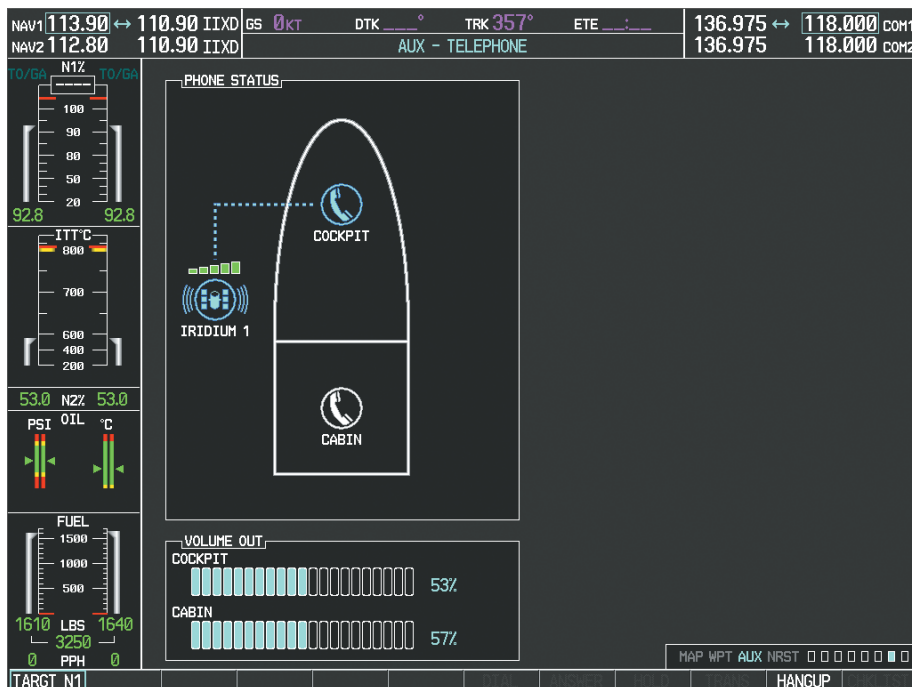

Figure 8-85 System is Making the Connection
- 7) Press the **ENT** Key. The system will begin calling the number, as in Figure 8-85.